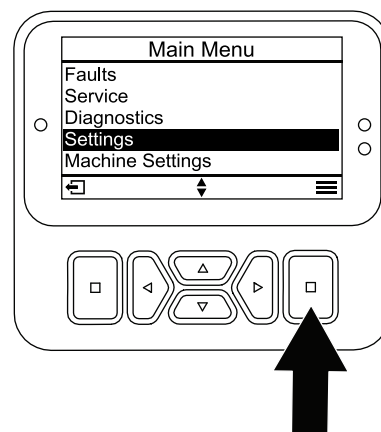

Figure 29
1. From the MAIN MENU, scroll down to the SETTINGS menu and press the select button (Figure 29).